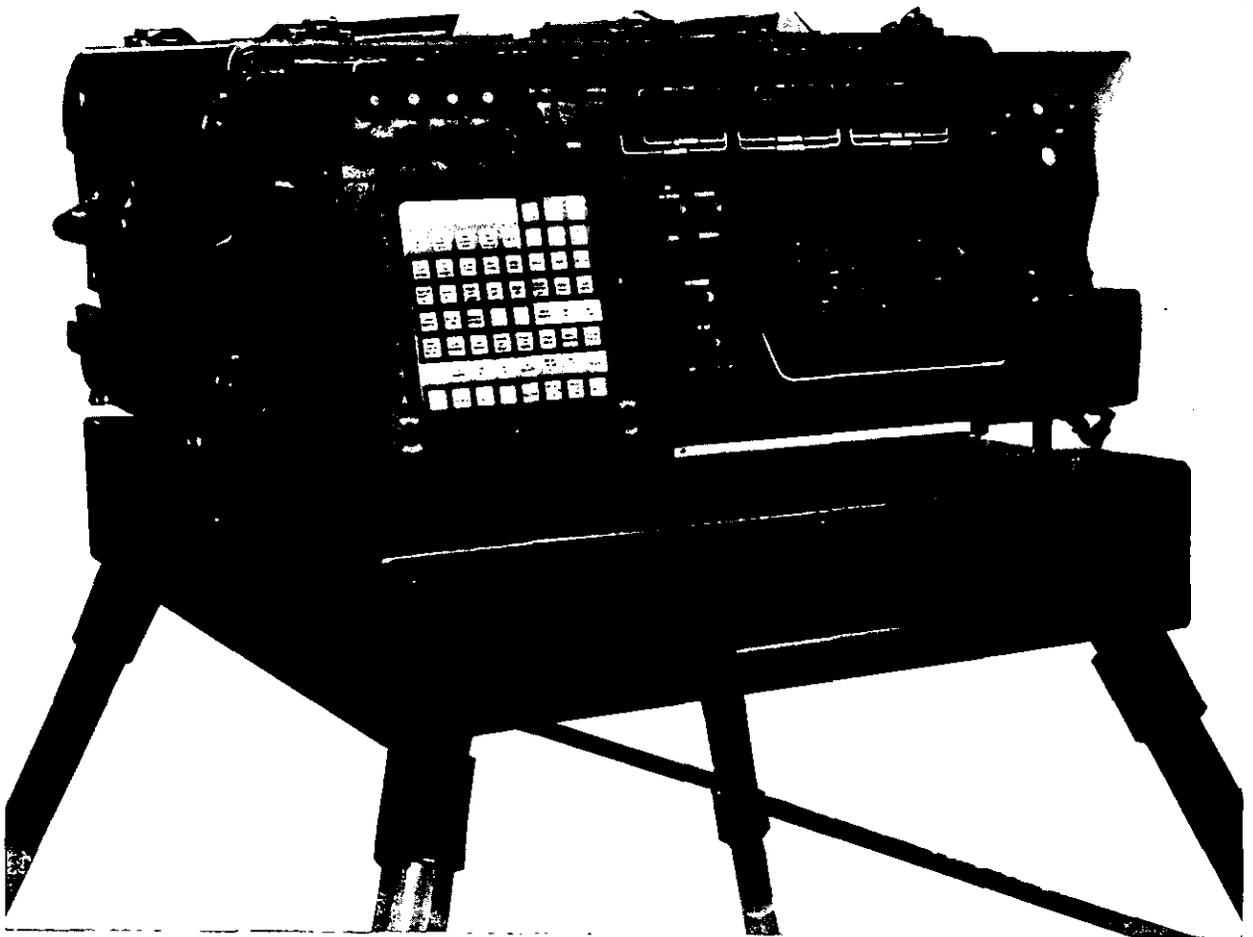

Figure 1. Gun direction computer M18.
a. The gun direction computer M18 (fig. 1) is a general purpose, solid state, nonvolatile digital computer. It is designed to solve the gunnery problem by computing accurate firing data for rockets or cannons; however, it will perform any computational task for which a